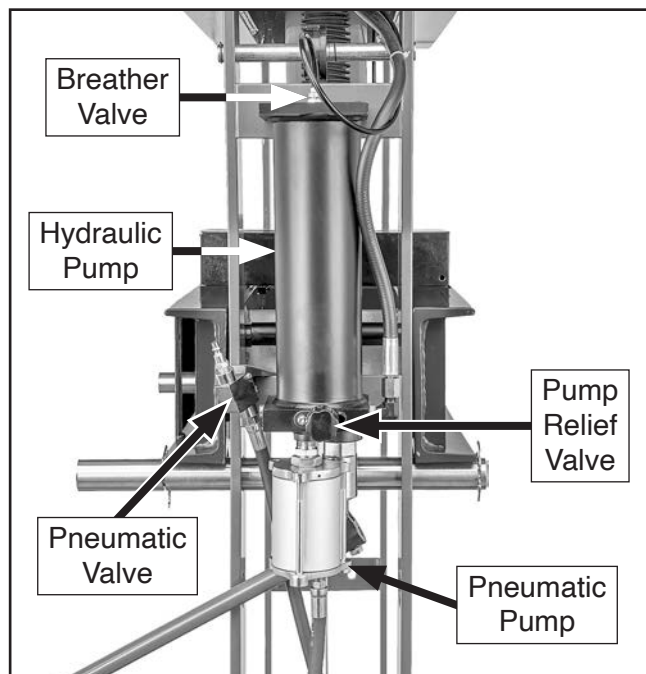

Figure 26. Location of hydraulic system pneumatic components.
The amount of force applied to the workpiece can be adjusted using the pump relief valve and the pneumatic valve (see **Figure 26**).
2. Rotate pump relief valve counterclockwise to open hydraulic system (see **Figure 26**).